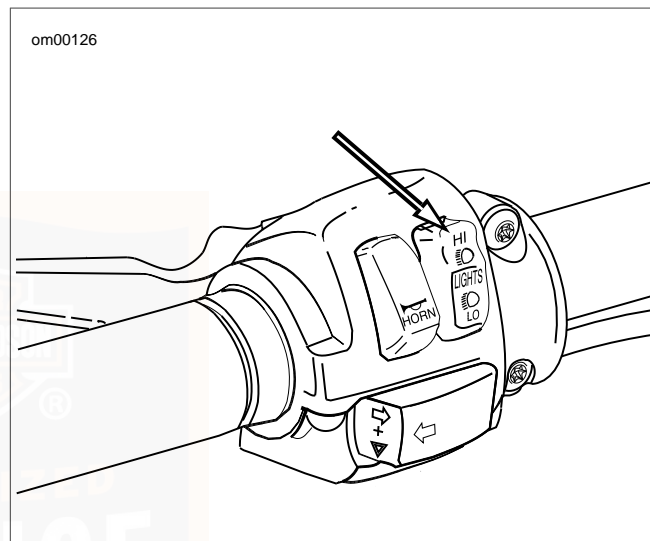

Figure 38. Headlamp Switch High Beam Setting
7. See Figure 38. Turn ignition switch ON. Set handlebar headlamp switch to HIGH beam position.